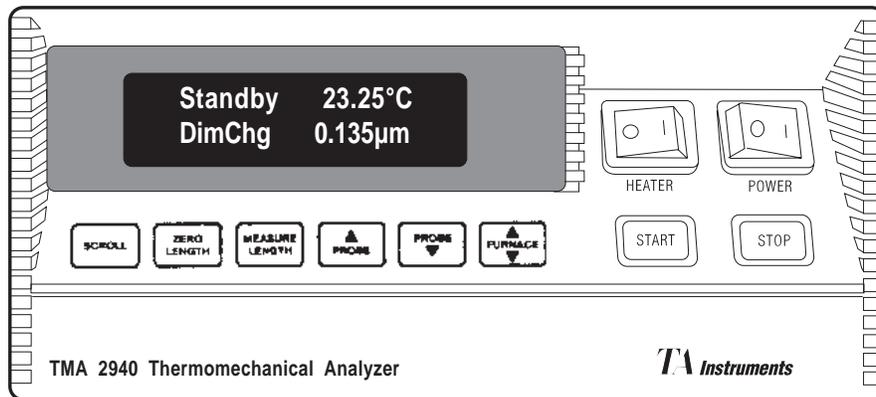

Figure 1.2
The TMA display is the lighted area of the keypad unit (see Figure 1.2). It contains two rows of 20 characters each.
The instrument keypad (Figure 1.2) contains the keys described in Table 1.1 on the next page as well as the HEATER and POWER switches.
The HEATER switch (see Figure 1.2) turns the power to the instrument heater on and off. The switch should be in the ON (1) position before you start an experiment.
The POWER switch (see Figure 1.2) turns the power to the TMA 2940 CE on and off.